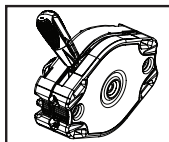

Fig. 2
4. If the clutch setting is incorrect: Loosen the locknuts (A) Fig 2 on the upper end of the clutch cable. Adjust the outer cable in the direction of the arrow to decrease the gap or opposite the arrow direction to increase the gap.
1. Set Ground speed lever to maximum speed position shown with the motor running. Then stop the motor and remove Spark Plug Lead (fig. 2).